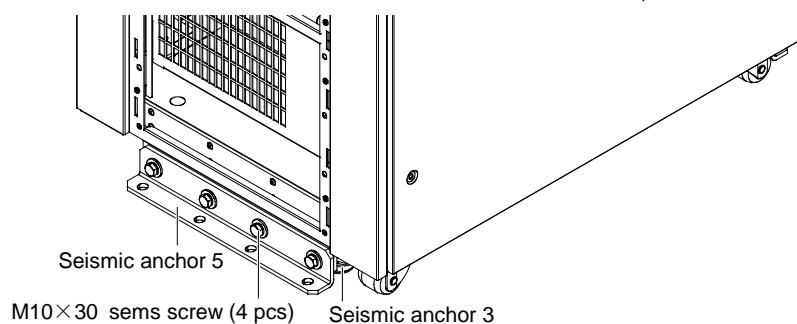

Figure 8-13 Fixing seismic anchor 5 onto seismic anchor 3
5. Use four M10 × 30 sems screws to fix seismic anchor 5 onto seismic anchor 3, as shown in Figure 8-13.